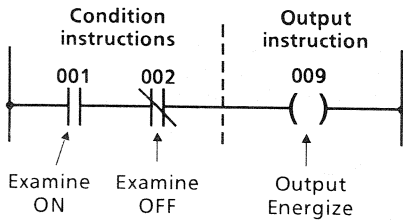

Figure 3.5 Ladder diagram rung. A continuous path of TRUE Condition instructions is required to make the Output Instruction TRUE.
3.1.5 Logical Continuity – An example of how condition and output instructions are used is shown in the ladder diagram of Figure 3.5. The *Examine ON* and *Examine OFF* instructions (conditional) are analogous to relay contacts, while the *Output Energize* instruction is analogous to a relay coil. However, this diagram must be evaluated in terms of *logical* continuity rather than *electrical* continuity.
Thus, in Figure 3.5, when both the Examine ON instruction is TRUE (status bit ON) and the Examine OFF instruction is TRUE (status bit OFF), the status bit of the Output Energize instruction will be set to ON.